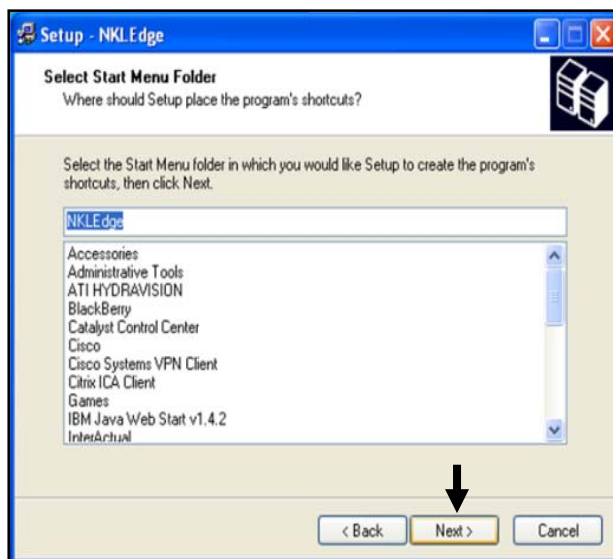

Fig. 3.9
- 8) Choose the Start Menu folder (default folder **NKLEdge** recommended), that the program will be installed to and then select **Next** (Fig. 3.8). On the next screen, click Install to start the process (Fig. 3.9 and 3.10).